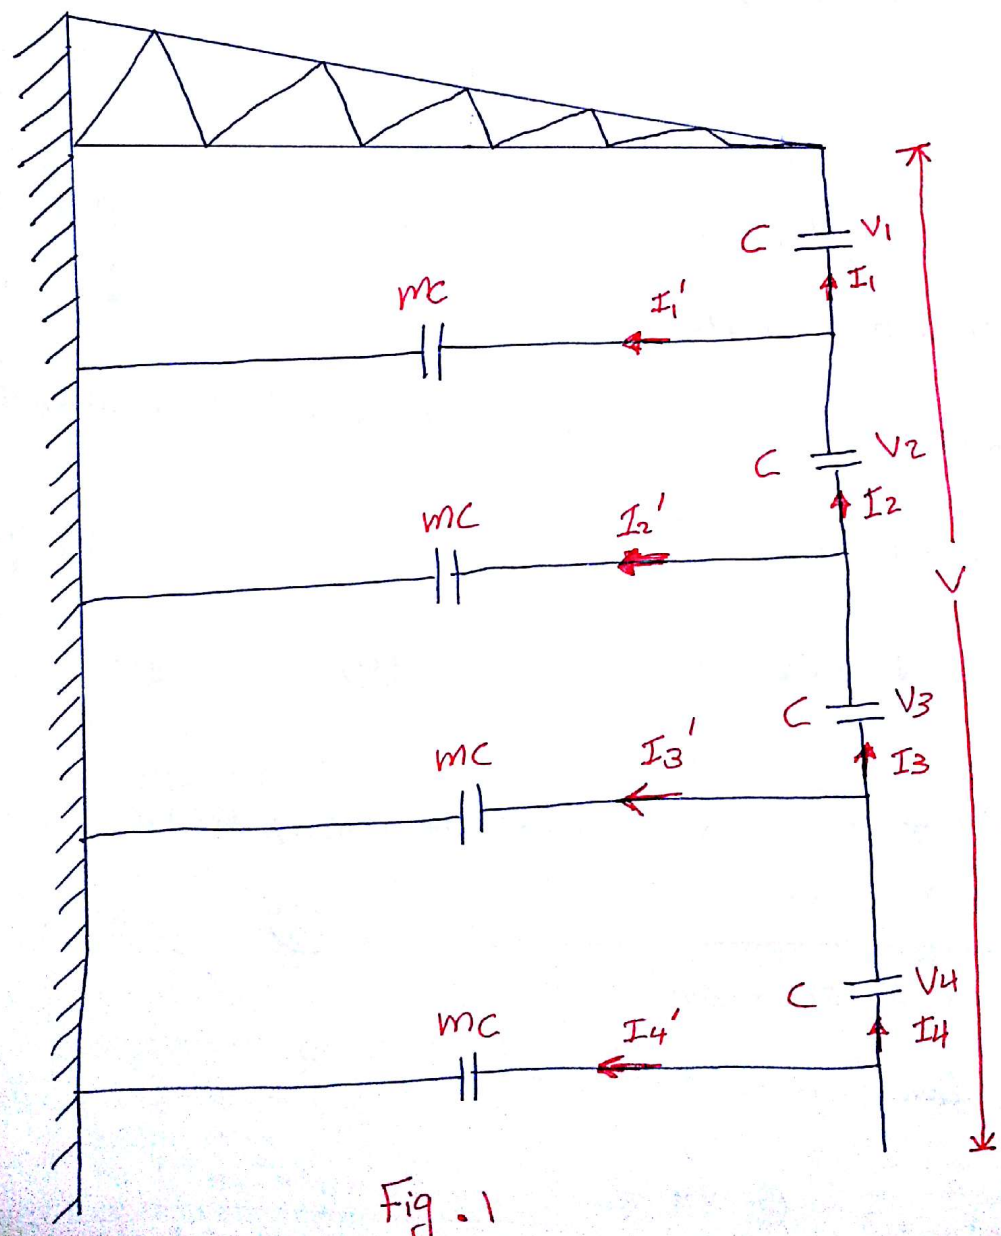

Fig. 1
* the relations between voltages in Fig. 1 are as follows :